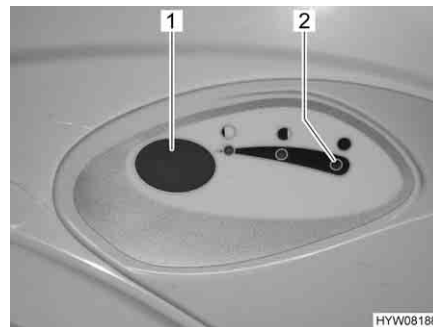

Fig. 251 Flush button/indicator lamp Thetford toilet
- For flushing, press the blue flush button (Fig. 251,1).
The indicator lamp (Fig. 251,2) lights up whenever the sewage tank has to be emptied.